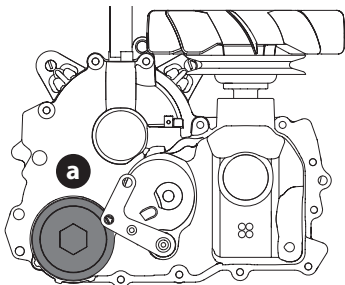

Figure 46
2. Place a suitable container under the oil filter cover (a) on the transmission. Remove the oil filter cover from the transmission to drain the oil (Figure 46). Remove and discard the O-ring.
4. Replace new filter and fit new O-ring onto filter cover (a) (Figure 46).